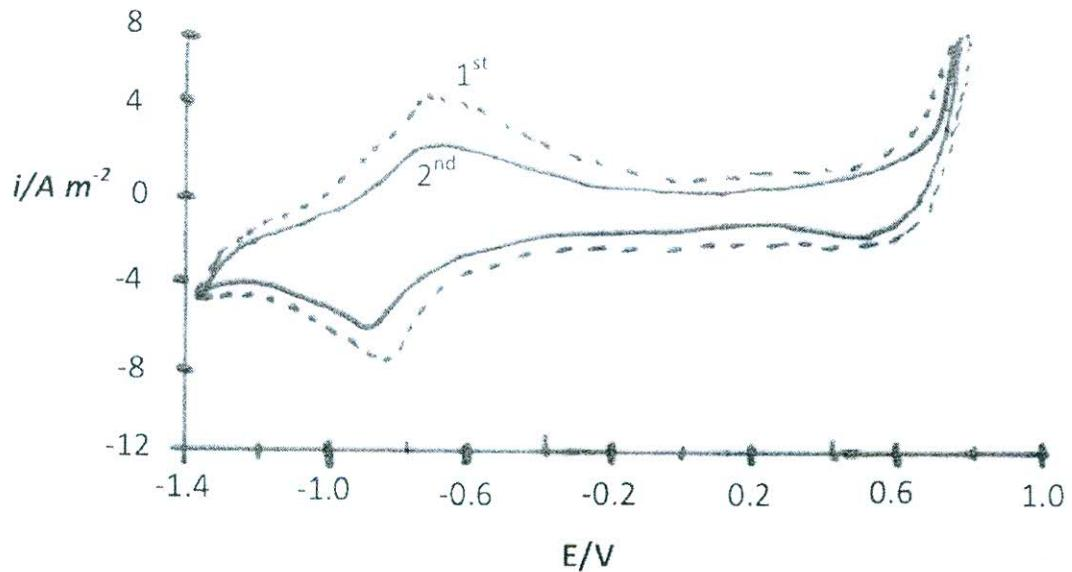

Figure 7
- [c] Figure 7 shows CV for the 1st and 2nd cycles using stainless steel 316 sample in saturated Ca(OH)2. Analyze and explain the corrosion/electrochemical reactions for these cycles.